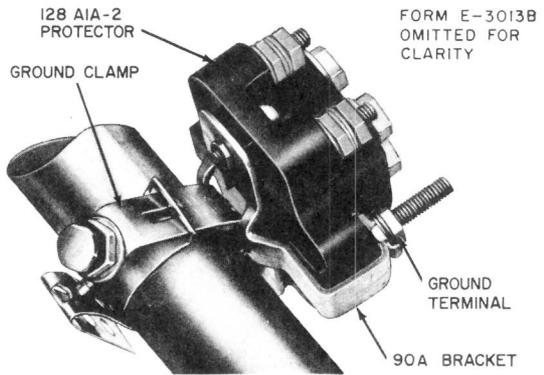

Fig. 27—Protector Installed on Metallic Water Pipe
- (5) Tighten mounting screw or bolts (see Fig. 27).
- (6) Install Form E-3013B. This form may be placed on the B station ground clamp (Step 2).